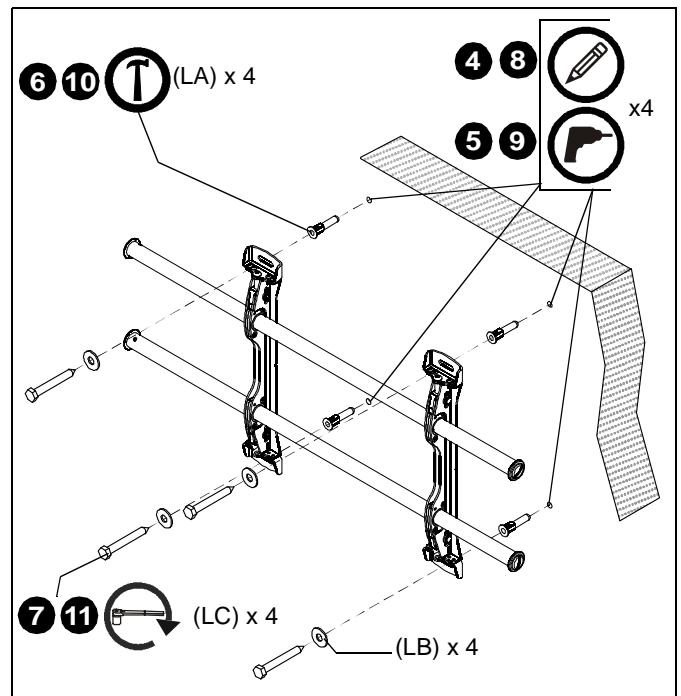

Figure 3
4. Using a level, mark the wall through both upper mounting slots. (See Figure 3)
5. Drill one 5/16" pilot hole at each marking. (See Figure 3)
6. Install an anchor (LA) into each pilot hole using a hammer. (See Figure 3)
7. Use two 5/16 x 2-1/2" lag bolts (LC) and two 5/16" flat washers (LB) to attach top of mount to anchors in wall. (See Figure 3)
8. Mark the attachment points for the lower mounting slots. (See Figure 3)
9. Drill one pilot hole at each marking for lower mounting holes. (See Figure 3)
10. Install an anchor (LA) into each pilot hole using a hammer. (See Figure 3)
11. Use two 5/16 x 2-1/2" lag bolts (LC) and two 5/16" flat washers (LB) to attach the mount to the wall through the lower mounting holes. (See Figure 3)